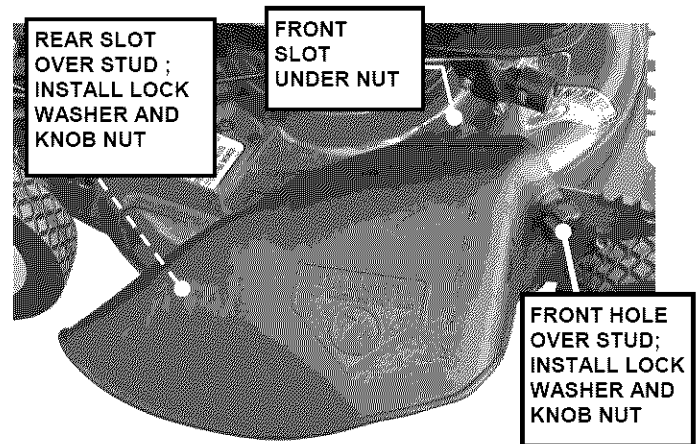

FIGURE 2.11
STEP 2: Install deflector to deck in place of recycling cover, making sure that: 1) hole on outside front of deflector fits onto stud in front of discharge opening where front of recycling cover was originally installed, 2) slot on top of deflector slips under restraining nut on top of deck (under right front corner of engine), and 3) slot on inside rear of deflector slips onto stud behind rear of discharge opening, where rear of recycling cover was originally secured. See Figure 2.11. Install internal/external tooth lock washers and knob nuts onto studs and tighten securely.